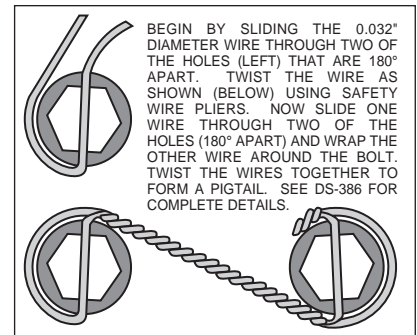

Figure 3. Safety Wire Diagram
- The caliper mount bracket assembly (1) should be installed first with clean, dry threads on the mounting bolts. Install the bracket by sliding bolt (4) through lock washer (2) from the back side through the lower caliper mounting ear on the spindle. Slide bolt (3) through lock washer (2) from a 90° degree angle on the upper portion of the steering arm. The bracket must tighten squarely against the outboard side of the caliper mount bosses on the spindle body. Inspect for interference from casting irregularities, machining ridges, burrs, etc. Later, after the caliper, pad, and rotor alignment has been checked, and any necessary shims have been put in place, the threads of the mounting bolts should be coated with red *Loctite*® 271 and torqued to 65 ft-lbs.
- Install wheel studs (5) into the hub (6). Torque to 77 ft-lb. **NOTE:** There are two (2) five lug patterns in the hub (5 x 4.50 and 5 x 4.75). Make sure of the correct hole pattern for the correct wheel application before installing studs into hub.
- Pack the large inner bearing cone (7) with high temperature disc brake bearing grease (available from your local auto parts store) and install into the backside of the hub (6).
- Install the grease seal (8) by pressing into the backside of the hub (6).
- Pack the small outer bearing cone (14) with high temperature disc brake bearing grease and install into front of hub (6). Slide the hub assembly (5, 6, 7, 8 and 14) onto the spindle. Secure using spindle washer (15), stock adjusting nut and nut locking device. Adjust bearing using a 12" wrench to tighten the adjusting nut while turning the rotor. When the rotor binds slightly, all the bearing parts are seated properly. Back of the nut 1/6 to 1/4 of a turn or enough to allow 0.001 to 0.007 end play. Lock the nut with a new cotter pin. **WARNING:** Failure to back off the adjusting nut may cause the bearing to run hot and be damaged, which could cause the wheel to lock or come off during operation, creating a risk of serious bodily harm.
- Install the o-ring (16) on the dust cap (17), and screw dust cap assembly onto the hub (6). Friction created by the o-ring (16) on the dust cap (17) keeps it from unscrewing.
- With the larger I.D. side of the rotor (9) facing away from the hat (10), bolt rotor (9) to hat(10) through the backside of the rotor using washers (11) and bolts (12). Torque bolts (12) to 85 **in-lb**. Safety wire bolts (12) using standard 0.032 inch diameter stainless steel safety wire as shown in Figure 3. Please refer to Wilwood's data sheet DS-386 (available at [www.wilwood.com/pdf/ds386.pdf](http://www.wilwood.com/pdf/ds386.pdf)) for complete safety wire installation instructions.
- Slide the rotor/hat assembly over the studs (5) in the hub (6) taking care to align the small countersunk holes in the hat (10) with the small threaded holes in the hub (6). Install three flat head socket head screws (13) through the small holes in the hat (10) and torque to 85 **in-lb**.